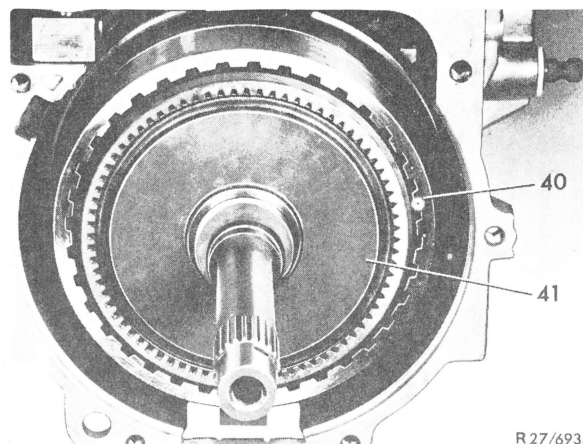

Fig. 53
**79** Insert input shaft (41) into gear assembly (40) (Fig. 53).